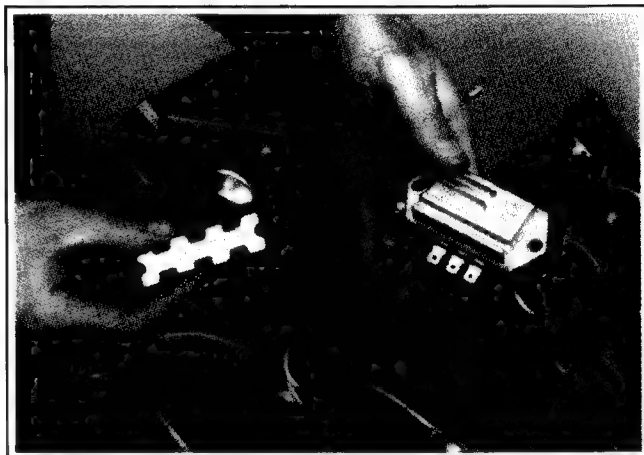

Figure 11-24. Spacer and Rectifier-Regulator (Top-Mount Fuel Tank Units Only).
1. On engines equipped with top-mounted fuel tanks, install the spacer and rectifier-regulator. See Figure 11-24.